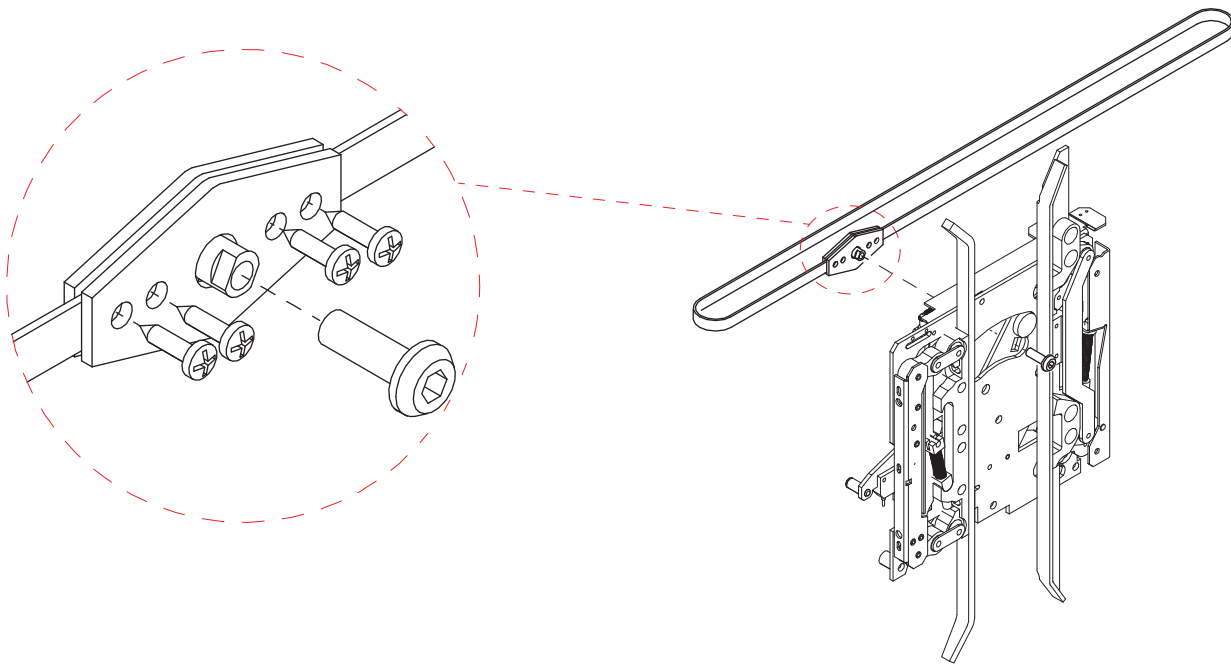

Figure 66 - Replace the Drive Belt
1. Remove the drive belt screws. See Figure 66.